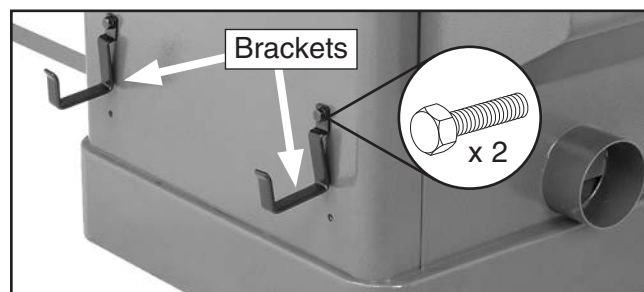

Figure 18. Fence resting brackets installed.
17. Install fence storage brackets (see **Figure 18**) onto back of cabinet with (2) M8-1.25 x 12 hex bolts.